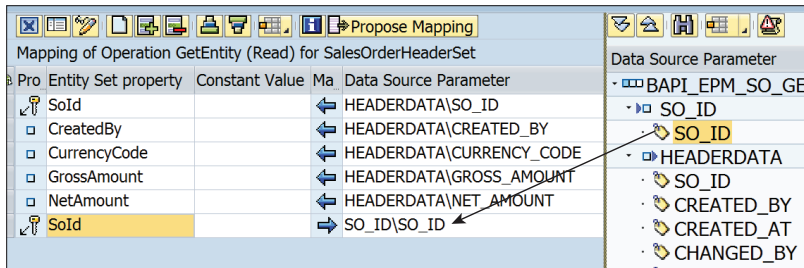

Figure 19.123 Map Import Parameter
- Once the field is added, drag and drop the `SO_ID` key field from the function module to the DATA SOURCE PARAMETER, as shown in Figure 19.123. The direction for this field is automatically set to INPUT; all the other fields are set to OUTPUT.